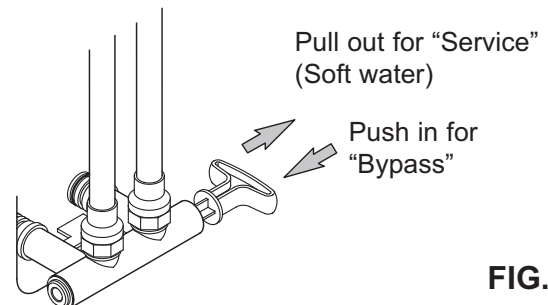
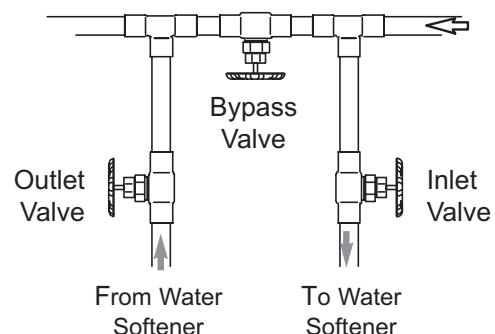

FIG. 6
FIG. 7
Always install either a single bypass valve (provided), as shown in Figure 6, or, if desired, parts for a 3 valve bypass system (not included) can be purchased and assembled, as shown in Figure 7. Bypass valves allow you to turn off water to the softener for maintenance if needed, but still have water in house pipes.
2. Place the bypass valve (single or 3 valve) into the "bypass" position. See Figures 6 & 7 on Page 7.